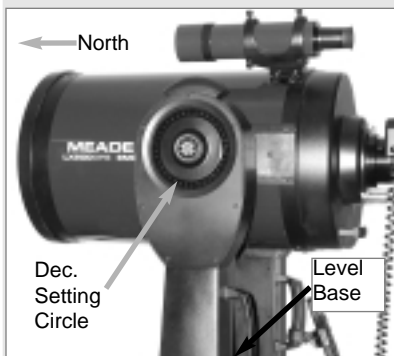
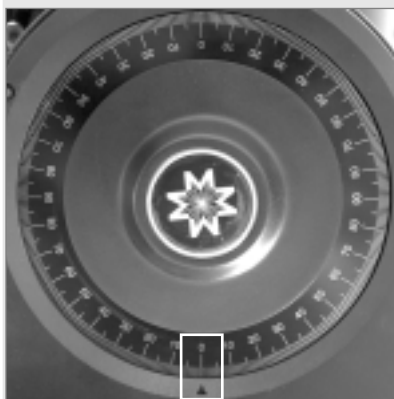

Fig. 19: Alt/Az Home Position.
Fig. 20: Dec. Setting Circle at 0°.
- a. See **Figs. 19 and 20**, page 37. Loosen the telescope's Dec. lock (**17, Fig. 1**). Set the optical tube to 0° on the Dec. setting circle (**Fig. 20**).